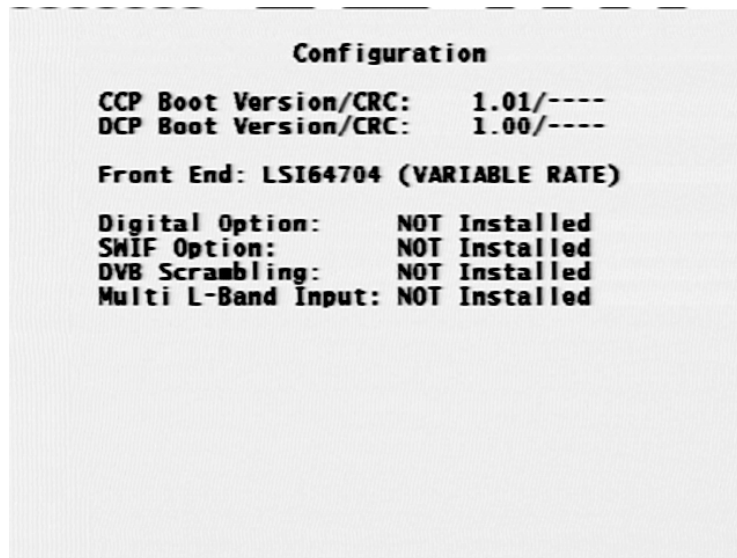

Figure 3-1. Configuration menu
Step 2. Press 8 to display the Configuration menu (see Figure 3-1).